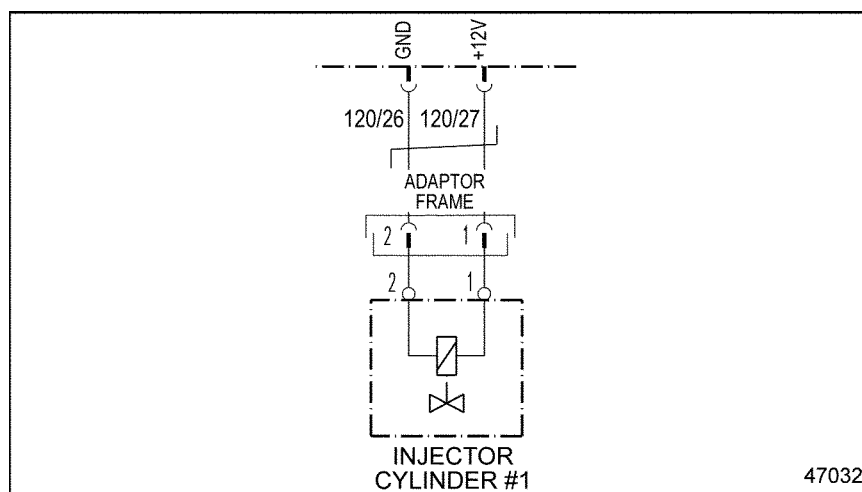

Figure 24-2 **Injector #1**
5. Measure the resistance between pin 1 of injector #1 and ground. See Figure 24-2.